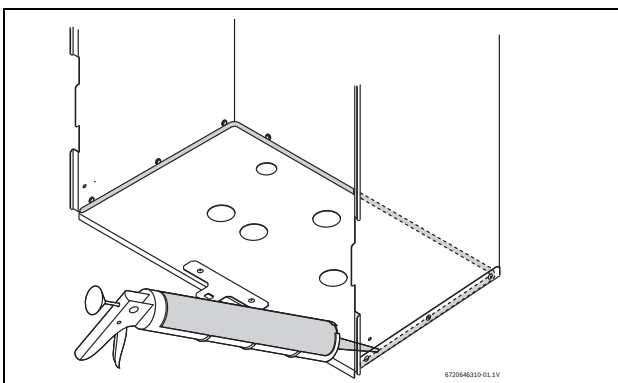

Fig. 7 Silicone inside the recess box
- ▶ Carefully, place silicone inside of the recess box, on the bottom side and rear edges and on top of the rivets, see Fig. 7.
- ▶ Secure recess box to wall studs using supplied lag screws. See Fig. 7. Be sure to use all of the supplied lag screws to secure the box.